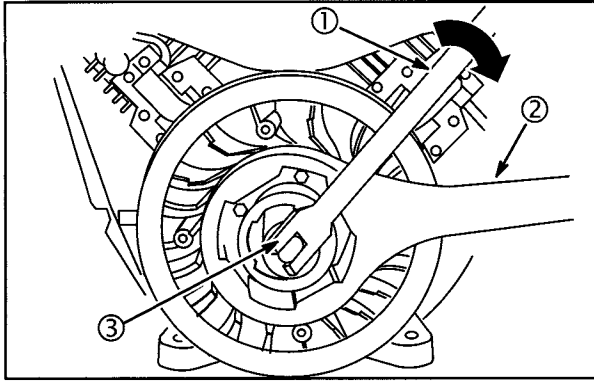

Fig. 17
2. Assemble Flywheel Holder #19321 (2) to retainer, Fig. 17.
3. Use a torque wrench (1) and 30 mm socket (3) to torque flywheel nut to **125 ft. lbs. (175 Nm)**.